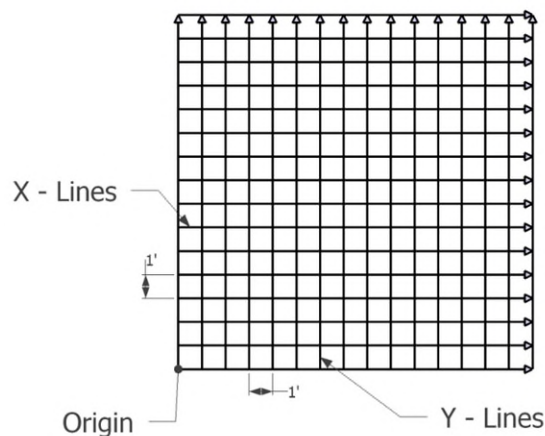

Figure 7-7: X-Lines and Y-Lines relative to the Origin.
Step 1 – Define the axis- Lines parallel to the Y-Axis are called Y-Lines. Similarly, lines parallel to the X-Axis are called X-Lines (Figure 7-7). Pick the origin of the grid such that it is the furthest corner away from any obstacles. This way, all the lines start properly, but they can be ended early if there is an obstruction.